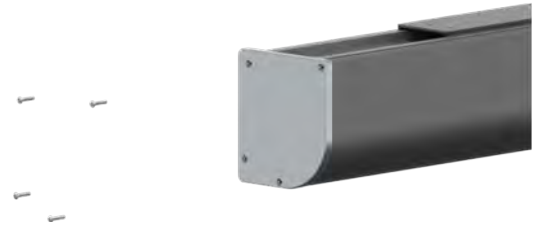

Figure 31. Audience left, front of unit, showing screws removed
1. Remove the four hex head 10-32 screws from each end cap, left and right (see Figure 31)